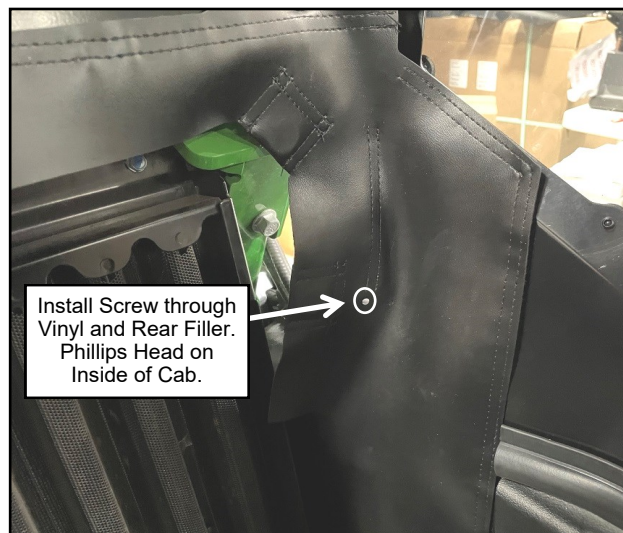

Fig. 2.20a (Attach Rear Filler Vinyl to Left Filler)
2.20 Once the rear panel's vinyl filler is fully installed onto the mating Velcro, install hardware through the Vinyl into the (2) fillers. See Figures 2.20a and b. Do not over tighten or vinyl will be damaged.